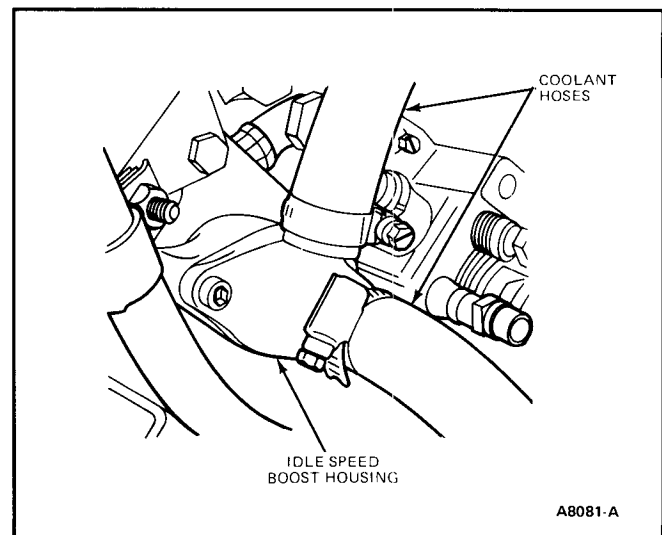

FIG. 51 Idle Speed Boost Housing
16. Disconnect coolant hoses from the idle speed boost housing (Fig. 51).
8. Connect coolant hoses to idle speed boost housing (Fig. 51).